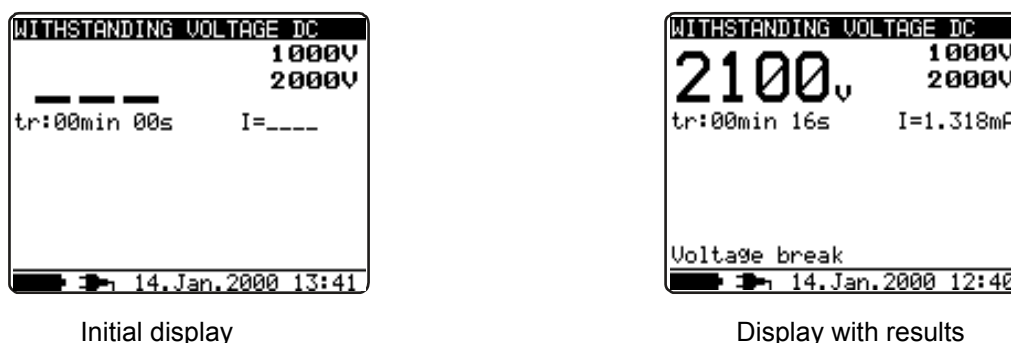

Fig. 18. Withstanding Voltage function display states
- The result (see the right part of the figure 18.) can optionally be saved by pressing the **MEM** key twice, see the chapter 6.1. Store, Recall and Clear Operation.